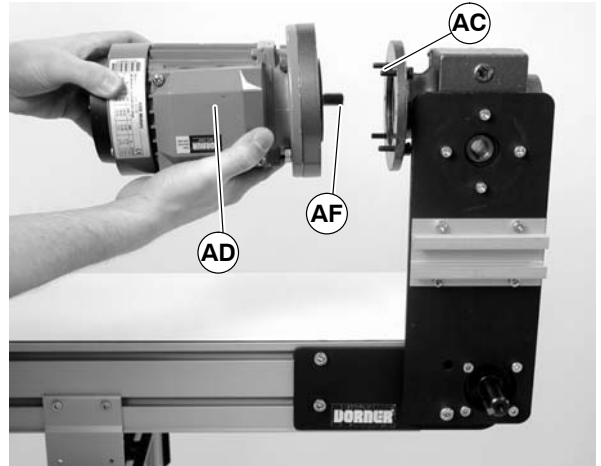

Figure 24
5. With key (AF of Figure 24) in keyway, slide motor (AD) and gear reducer together. Install screws (AC) and tighten.